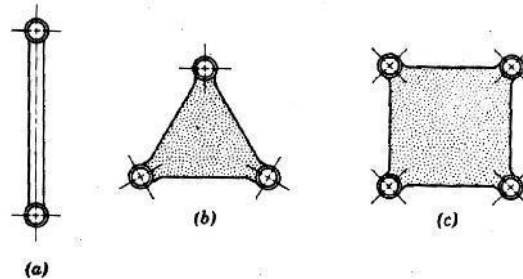

Fig.1.3
**Binary link:** Link which is connected to other links at two points. (Fig.1.3 a)
**Ternary link:** Link which is connected to other links at three points. (Fig.1.3 b)
**Quaternary link:** Link which is connected to other links at four points. (Fig.1.3 c)